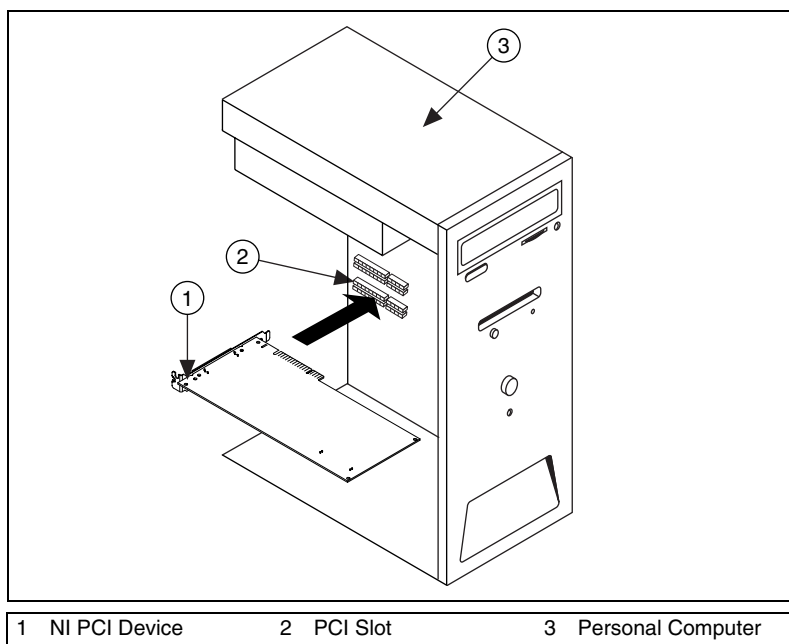

Figure 1. PCI Installation
4. Insert the device into an open full-length PCI slot, as shown in Figure 1.